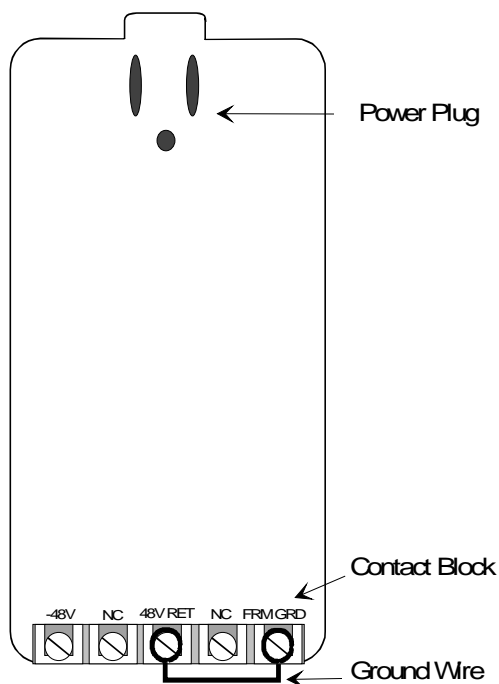

Figure 2-5. Tellabs 8012 Power Supply, Rear View
3. An 8012 power supply from Brooktrout comes with a ground wire connected to the contacts labeled 48V RET and FRM GRD (Figure 2-5). Verify the ground wire is connected to the contacts.